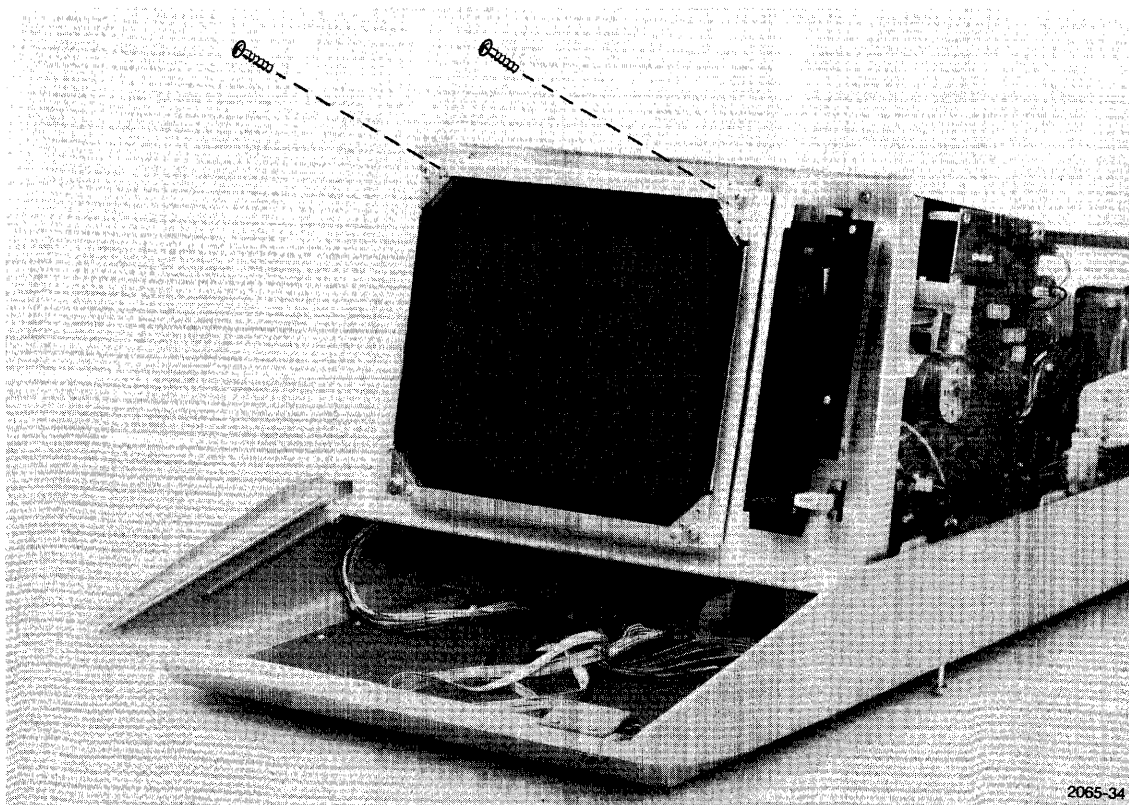

Fig. 3-16. CRT filter access and removal.
3. Remove the top angle bracket from the crt mounting assembly (Fig. 3-16), after removing the two screws, one on each end. Loosen the screws on the lower angle bracket.